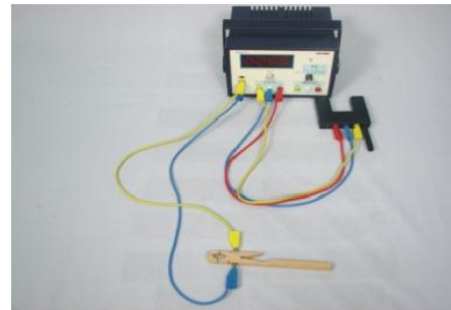

Figure 2.15: Cables connection.
- 3- Plug the yellow (11) and blue (9) cables into the sockets of the respective clips. Plug the opposite ends of the cables into the "Start" panel (polarity is not important here) as shown in Figure 2.15.